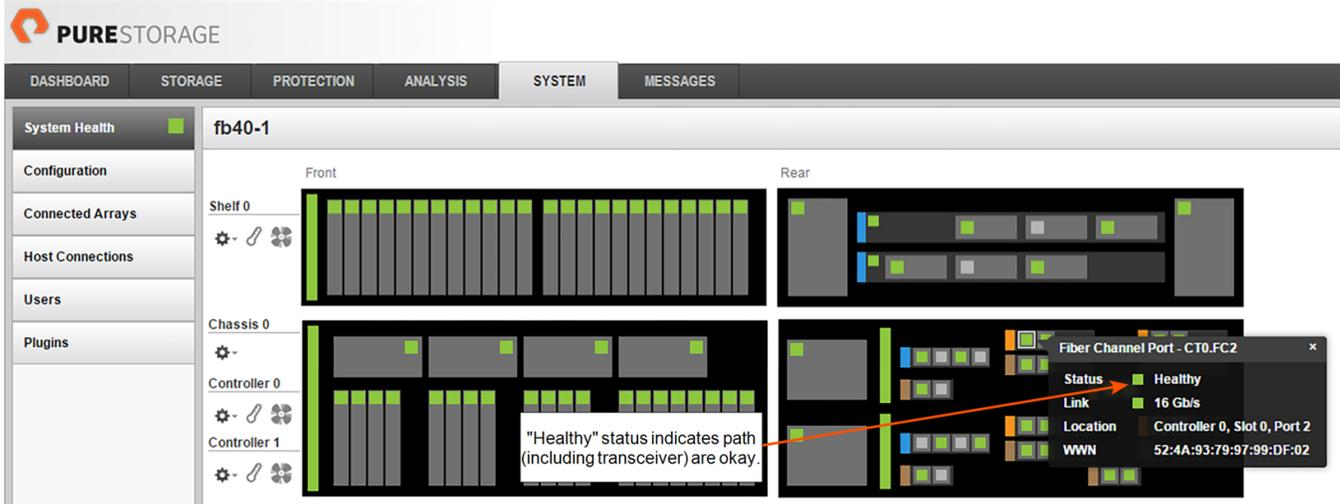

Figure 6-8. GUI Indication of a Functional Optical Transceiver
1. Request that the customer or Pure Storage Technical Support representative use the Purity GUI or CLI to verify the replacement. See Figure 6-8 for an example of GUI indicators and Figure 6-9 for an example of CLI indicators that reflect an operational power supply.